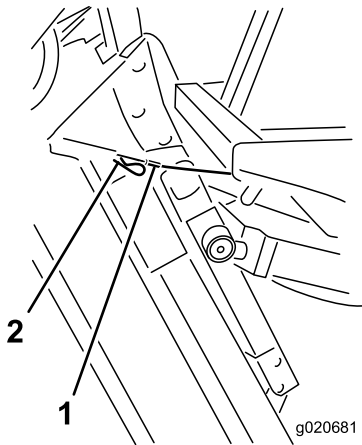

Figure 102
6. Hold the cutting unit upright, fit the cable end over the pin on the cutting unit lift arm and secure it with the hairpin cotter (Figure 102).